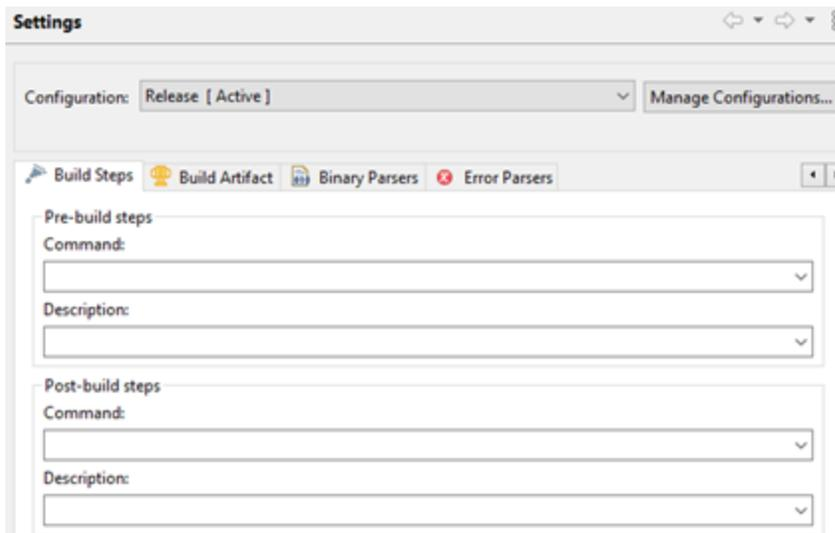

Figure 22. Deleting Command in Post-Build Steps
- d. Delete **Command** in **Post-build steps** (see the "Deleting Command in Post-Build Steps" figure (Figure 22)).